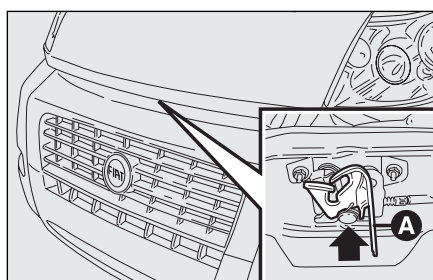

fig. 101
- ☐ pull lever **A-fig. 101** as shown in the figure;